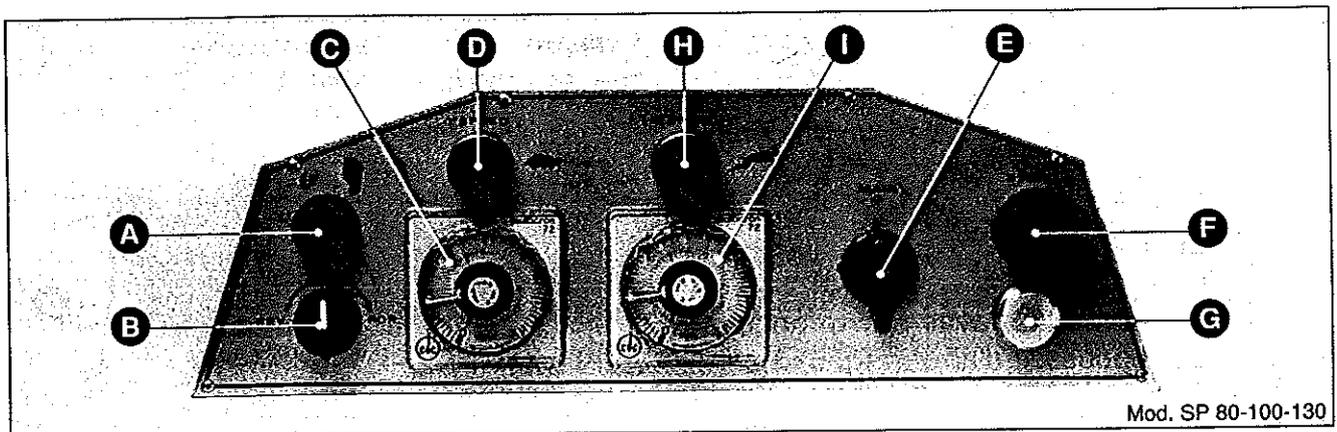

Fig. 7
3.6 VARIANTE DU MOD. SP 80-100-130 (Fig. 7)